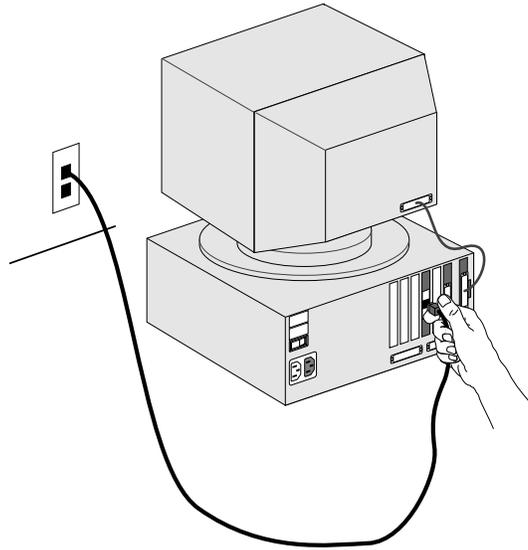

Figure 3-5. Connecting a 10BASE-T Interface Card
1. **Connect one end of a UTP patch cable (e.g. Model 910) to the RJ-45 port of the 10BASE-T interface card (see Figure 3-5).**
2. **Connect the other end to the RJ-45 connector of the wall outlet (see Figure 3-5).**